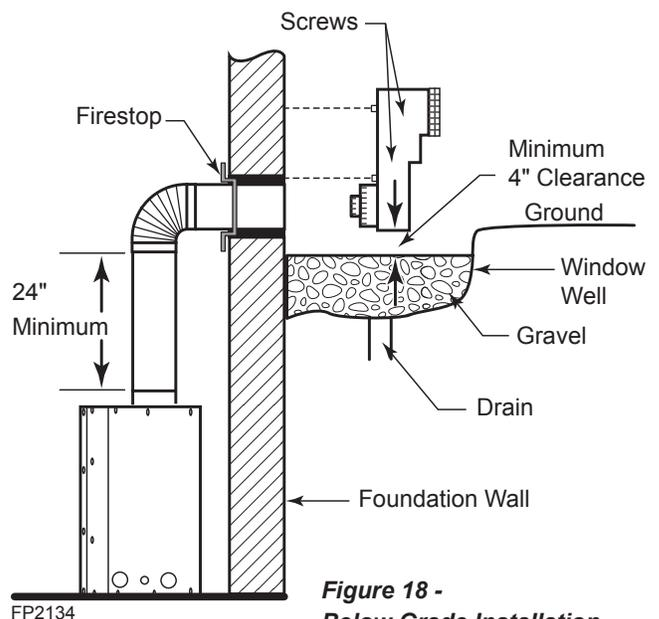

Figure 18 - Below Grade Installation
2. Remove soil to a depth of approximately 16" below base of snorkel. Install drain pipe. Install window well (not supplied). Refill hole with 12" of coarse gravel leaving a clearance of approximately 4" below snorkel. *Figure 18*
7. Level the soil so as to maintain a 4" clearance below snorkel. *Figure 18*